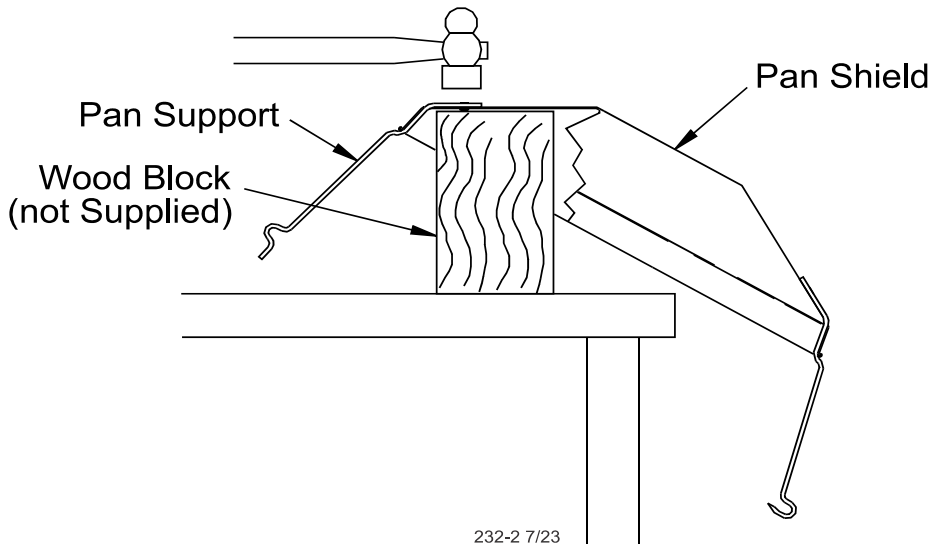

Figure 14. Pan Shield Assembly
1. Attach one Swing Down Pan Support and three regular Pan Supports to the Pan Shield using rivets supplied. Always attach the Swing Down Pan Support at the same location on all pan shields. It will be necessary to support the Pan Shield while installing the rivets. Use a hammer to drive rivets as shown in **Figure 14**.
3. Rivet the Pan Supports on the Control Unit Shield. **See Figure 14 (on page 18) for instructions on riveting.**